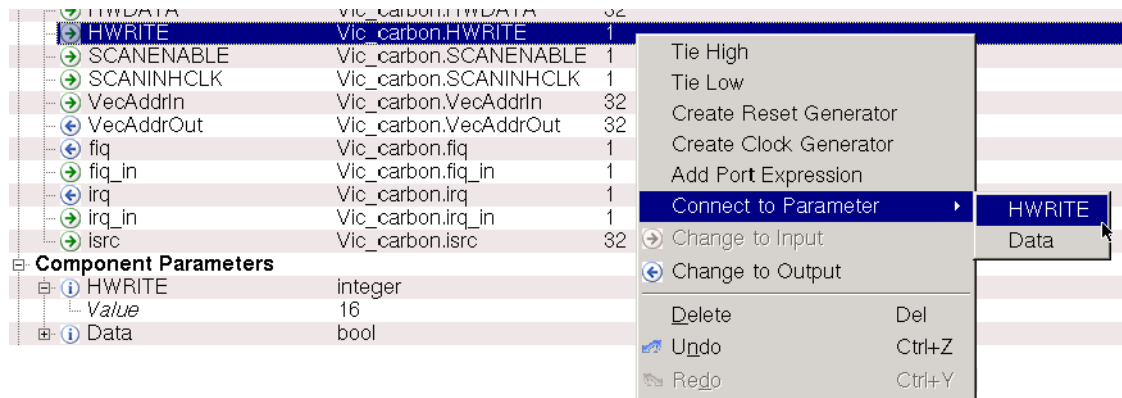

Figure 5-32 Connecting ESL Port to SoC Designer Plus Component Parameter
1. Right-click the ESL port name and select **Connect to Parameter** from the context menu, and then select the existing parameter (Figure 5-32).